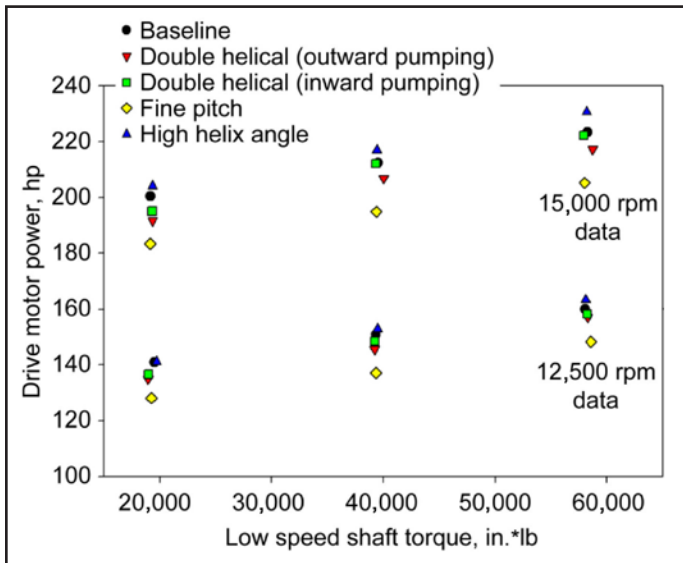
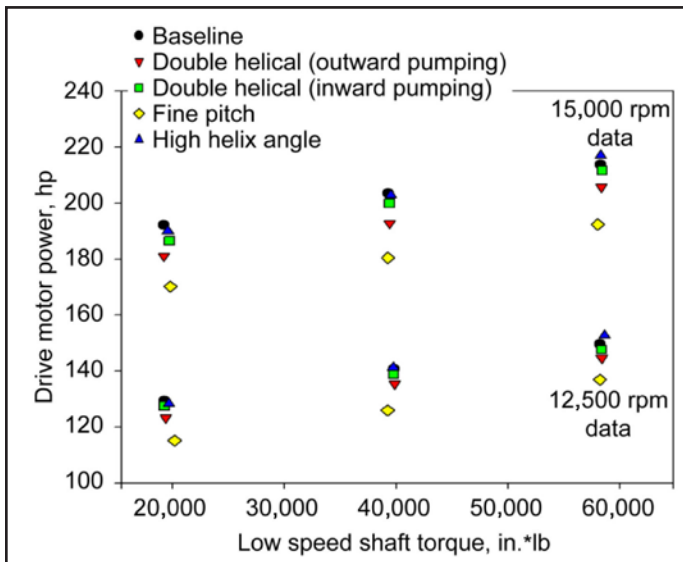

Figure 13 Effect of gear design shrouded on drive motor power, 160°F lubricant inlet temperature.
Figure 14 Effect of gear design (shrouded) on drive motor power, 250°F lubricant inlet temperature.
**Gear design effects.** An indication of how the different gear designs affect the performance for the same operating conditions for all four designs is addressed in this section. In Figure 13 the design effect is shown at 160° F lubricant inlet temperature and in Figure 14 at 250° F lubricant inlet temperature as a function of applied bull gear torque at two different rotational speeds. Both figures were for shrouded gears.